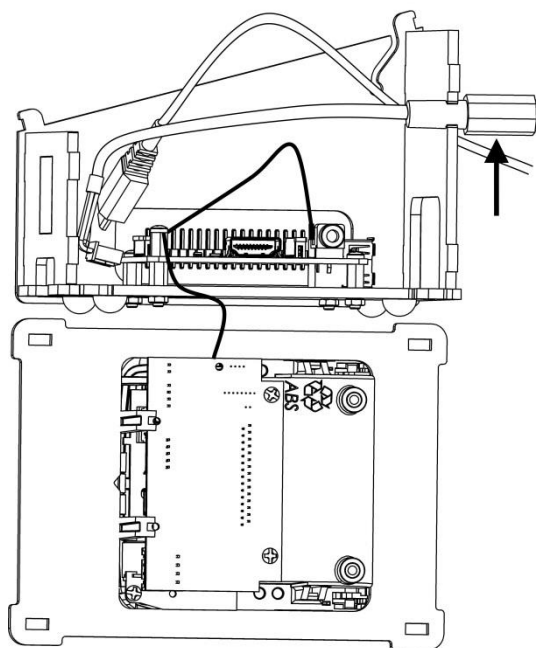

Figure 9
- 16) Slide the knurled strain relief of the PSA Cable from the back of the unit into the right hand toothed slot in the back plastics, as shown in *Figure 9*. Press the PSA Cable forward until it is firmly trapped.